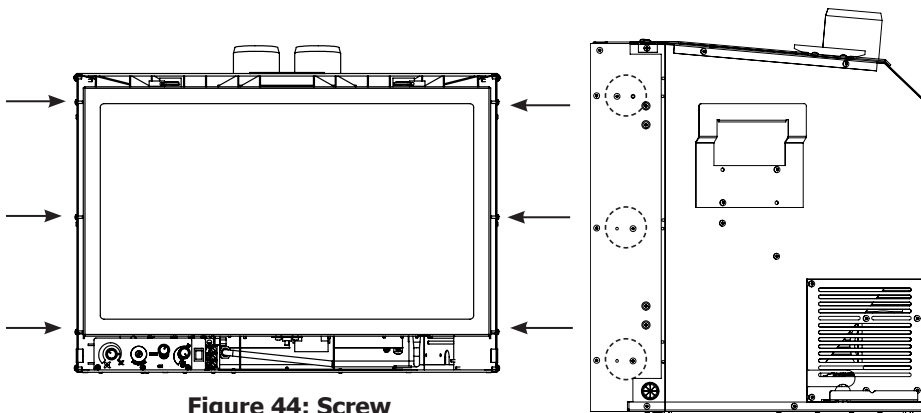

Figure 44: Screw Installation Locations.
1. Install the two Trimmable Panel brackets onto the E30 unit using a T-20 Torx screwdriver. See Figures 44 and 45 for the screw installation locations. There are three sets of hole patterns on the brackets depending on which Surround Panel is being installed. See Figures 46-48.